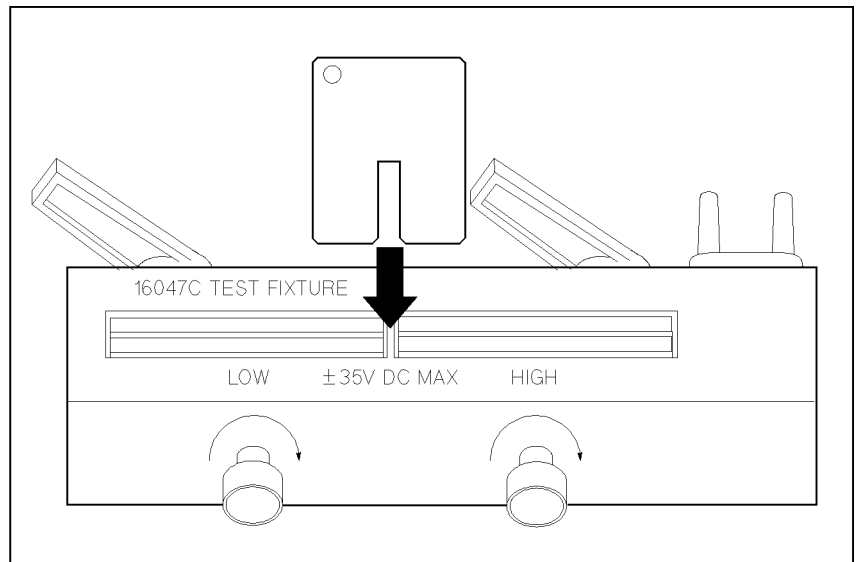

Figure 3-2. Connecting a Shorting Bar
- f. Connect a shorting bar to the 16047C to set up the SHORT condition as shown in Figure 3-2.